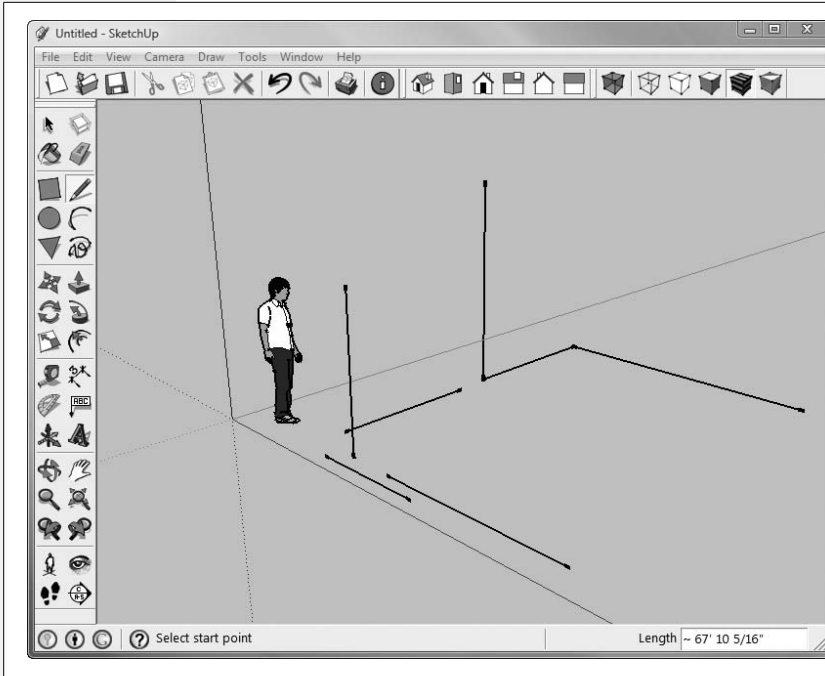

Figure 3-4:
8. **Use the Orbit (O or middle mouse button) tool to examine your creation, *Sticks in Space* (Figure 3-4).**